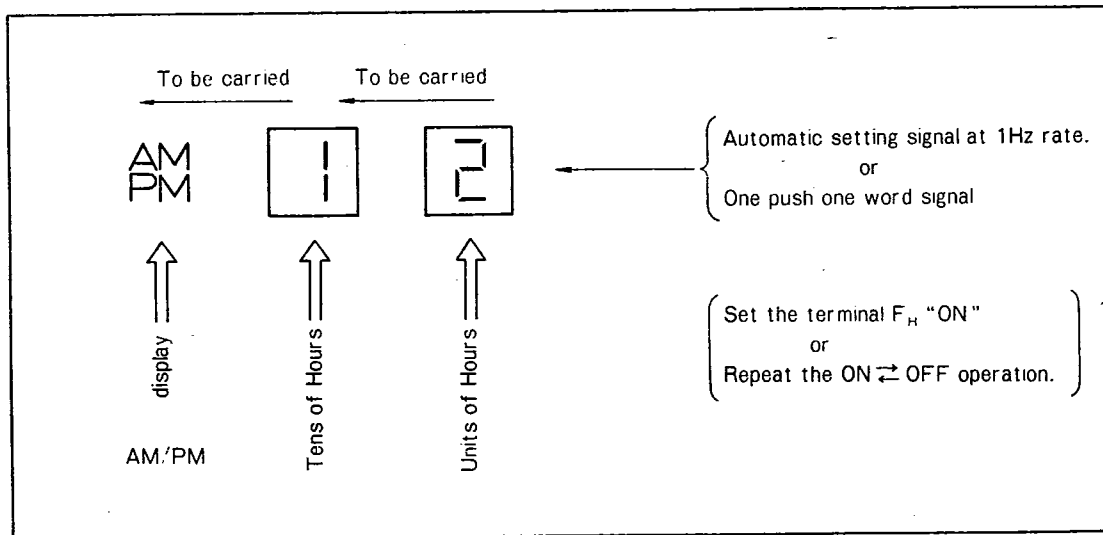

Fig.5
- ① Set the terminal F_H on, then, the setting can be made to the desired figures at 1 pps. When you are required to set hours faster, repeat the ON-OFF operation of the terminal F_H . Then, hours can be set at the speed of hand-operating. Refer to the Fig. 5.